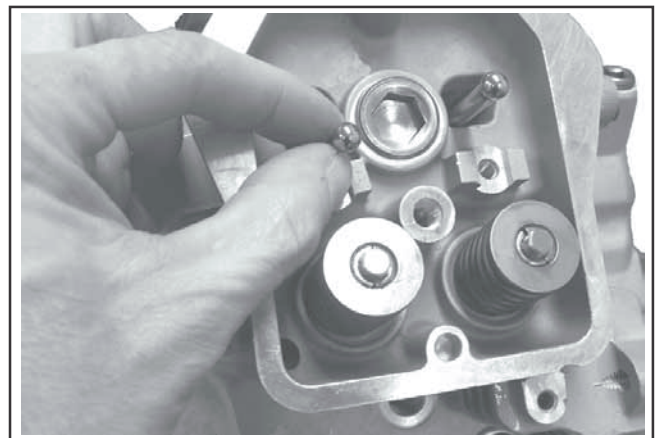

Figure 10-52. Install Push Rods in Their Original Position.
1. Note the mark or tag identifying the push rod as either intake or exhaust and cylinder 1 or 2. Dip the ends of the push rods in engine oil and install, making sure that each push rod ball seats in its hydraulic lifter socket. See Figure 10-52.